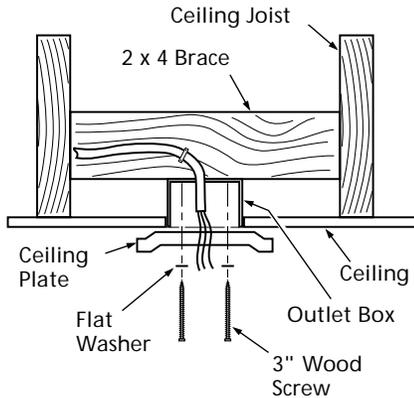

**Figure 2b - Correct Position of Ceiling Plate for Angle Mounting**
**For Angle Mounting Only:** Be sure to orient the ceiling plate so that the two hooks point up towards the ceiling peak as shown in Figure 2b. **Note:** You will use the hooks to support the fan during STEP 5 - WIRING THE FAN.